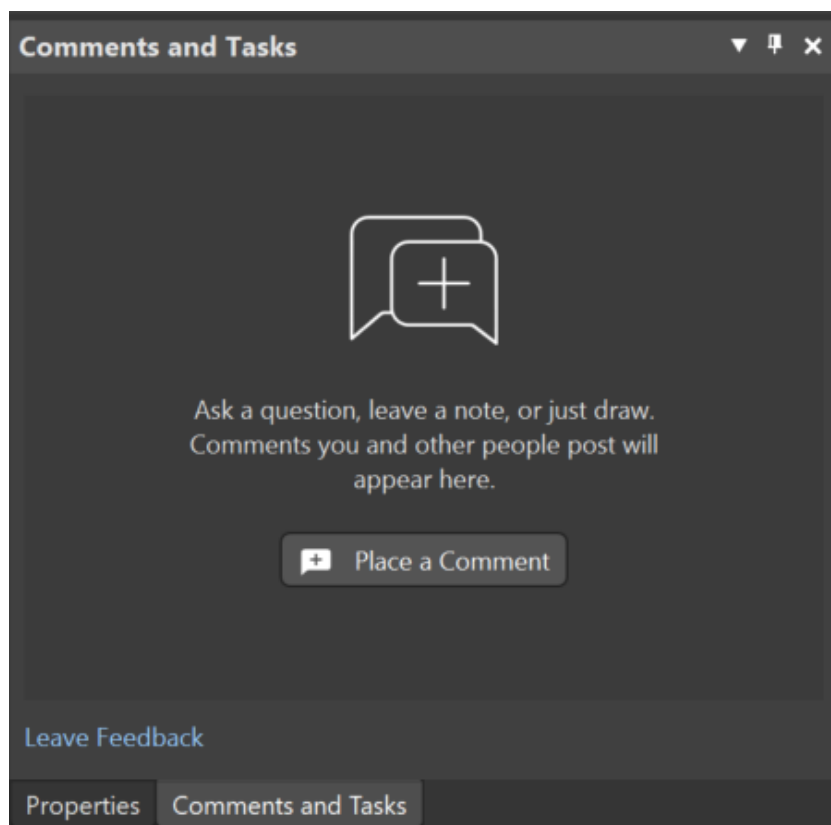

Figure 1. Comments and Tasks
4. Open the Panel *Comments and Tasks*, Figure 1, no Comments and Tasks are added so far.